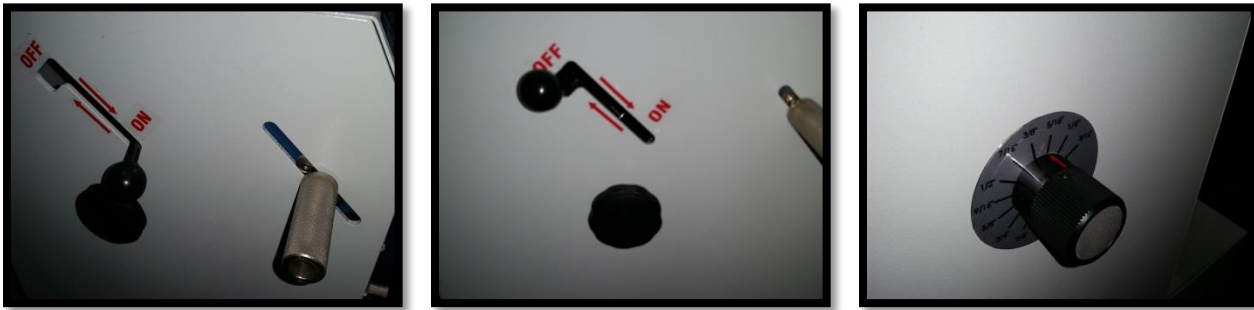

Figure 8
- c. **Wire-O Holder Pusher Adjustment:** The Wire-O pusher is used to push each individual wire from the machine and drop it onto the wire holder. The pusher can be turned off or on using the lever on the left side of the machine. If it is turned off, the machines closing bar will still function but not the dispenser. Loosen the locking knob on the left side of the machine and turn the knob on the right side of the machine so that the 0 mark is lined up with the wire size being used. Figure 8